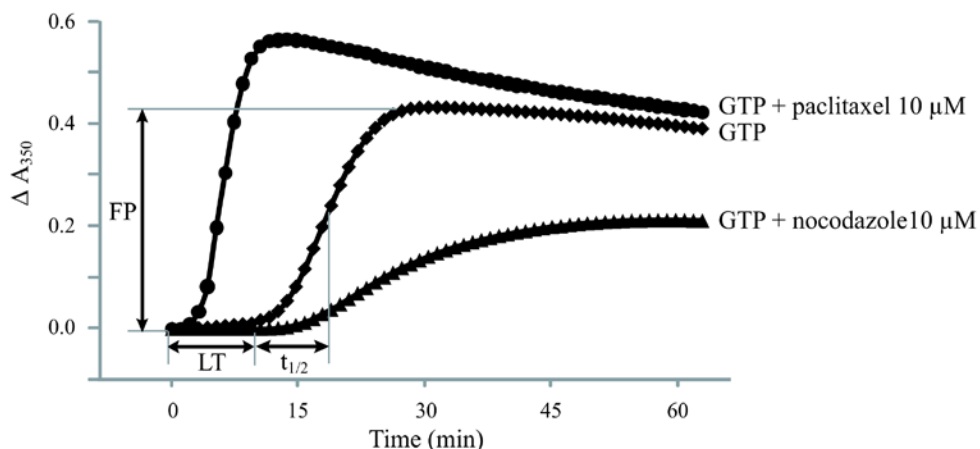

Figure 1: Tubulin polymerization assay in the presence of GTP and control compounds.
4. We advise to pre-centrifuge the tubulin sample if it was stored improperly or thawed-frozen before. It enables the removal of tubulin aggregates which act as “seeds” and change the shape of the sigmoid curve by shortening the lag time (LT- see Figure 1), when tubulin heterodimers first polymerize. The presence of the lag time in the control (pure tubulin) reaction is an important indicator of the tubulin quality. The absence of LT can jeopardize the evaluation of experiments where the test substance contributes itself to the formation of seeds (e.g. Taxol™ or some MAPs, for microtubule-associated proteins). Correctly stored tubulin from EMD Millipore does not require the pre-centrifugation step (see **Troubleshooting**).